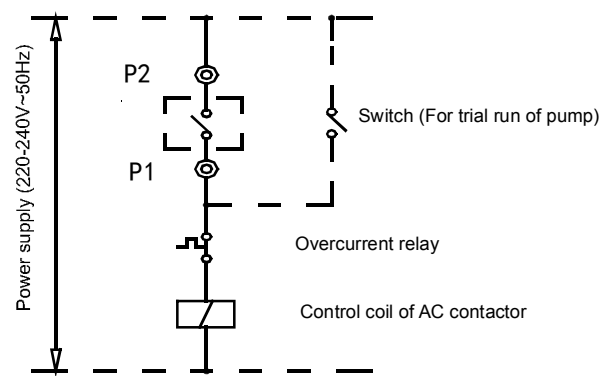

Fig. 5-3
Step 11. Connection of control wires of pump: the control wires of AC contactor of pump must pass the connection terminals p1 and P2 of the main unit, as shown in *Fig. 5-3*.